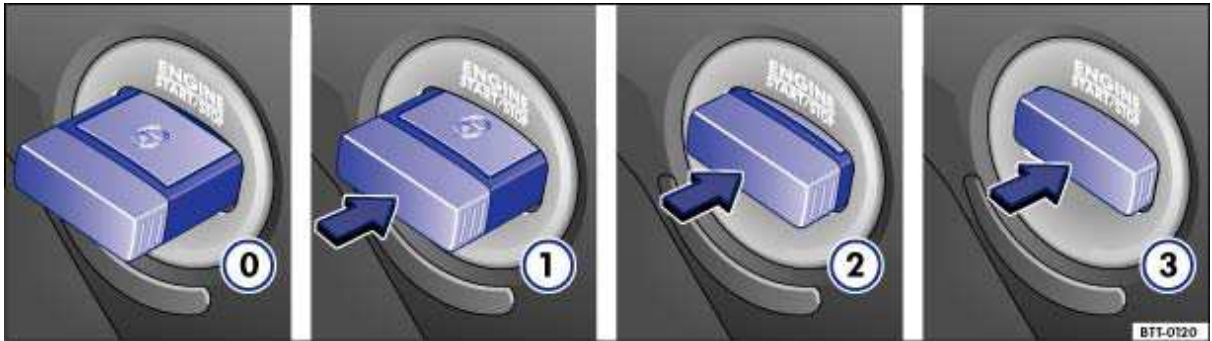

Fig. 111 In the ignition switch: Vehicle key positions.
Vehicle key position ⇒ fig. 111
2.	Shift the transmission into Neutral (N) or Park (P) (automatic), or into Neutral (manual only).
3.	Push the vehicle key to position \Rightarrow fig. 111 (3) – do not depress the accelerator pedal.
3.	Automatic transmission: Shift the transmission into Park (P) .
5.	Push the vehicle key fully into the ignition switch and release. The vehicle key springs back to position ⇒ fig. 111 (1) .